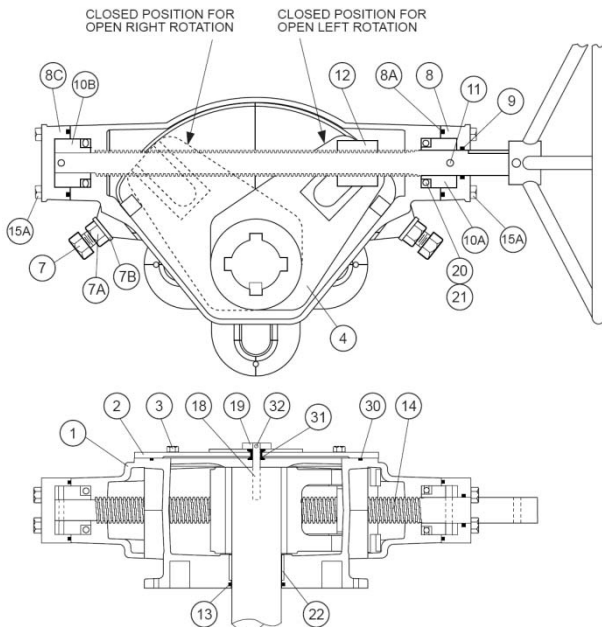

**FIGURE 10. GEAR ACTUATOR CONSTRUCTION**
**WORM GEAR ACTUATOR MAINTENANCE:** A typical worm gear actuator is shown in Figure 10 and consists of a worm (3) mounted on an input shaft (9). The worm engages a segment gear (2). When the worm is turned, it drives the segment gear through 90° of rotation. The rotation of the segment gear is displayed by the top indicator (5). The gears are lubricated with EP2 grease in a cast iron housing (1). The open and closed positions of the segment gear (2) are controlled by the end position stop bolts (20). The stops can be adjusted by loosening the lock nut (21) and rotating the bolts (20).